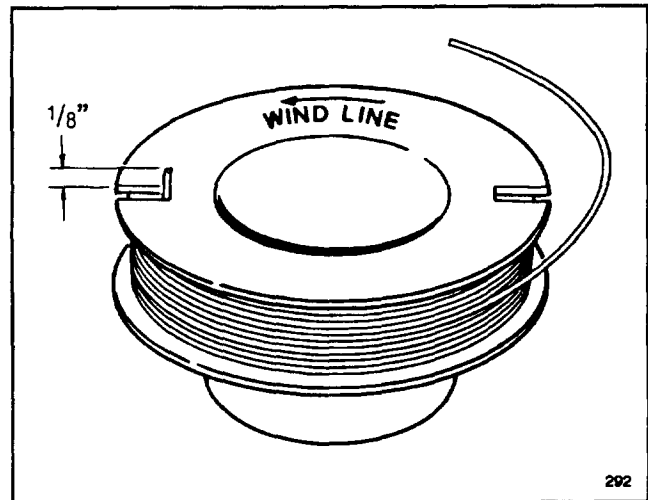

Figure 11
- A. Hook one end of line into groove on spool, allowing no more than 1/8" to protrude. Wind line in direction of arrows on spool in level rows between spool flanges (Fig. 11).